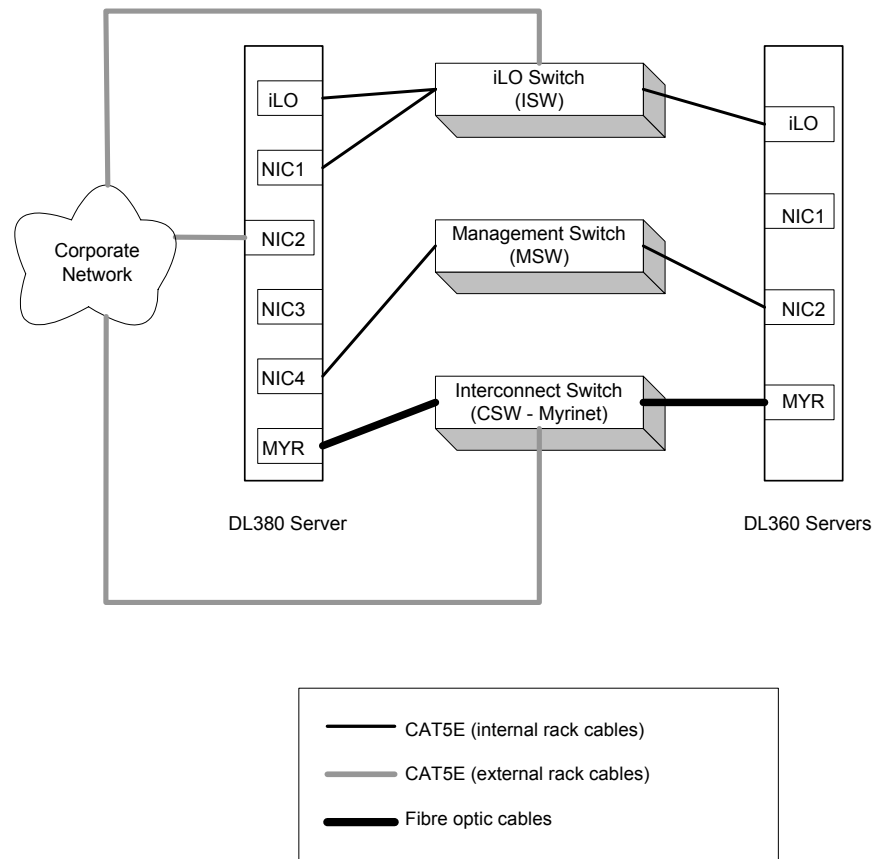

figure 3. network overview of Myrinet HPC cluster solutions
Figure 3 below provides a high level overview of the network cabling requirements for the **Myrinet** HPC cluster solutions only.
In figure 3 above, the DL380 server has one (1) iLO port, four (4) NIC ports, and one (1) Myrinet adapter connection. Both the iLO port and NIC1 port connect to the iLO switch (ISW). NIC2 is used to connect to an external network. NIC 3 is not connected but may be utilized to connect to an external network. NIC4 is used to connect to the management switch (MSW). The Myrinet adapter connection (MYR) is used to connect to the cluster interconnect switch (CSW). In this configuration, the cluster interconnect switch is a Myrinet switch and may vary in size depending on how many compute nodes the HPC solution contains.
Figure 3 above assumes you will be connecting your HPC LC Series solution to an external DHCP server. The DHCP server must be provided by the customer and be made available to the system before proceeding to use iLO. If you plan on using the control node and HPC cluster software to assign DHCP addresses, then you will need to cable the system accordingly.